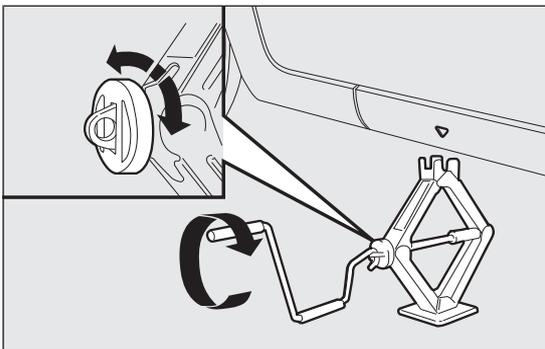
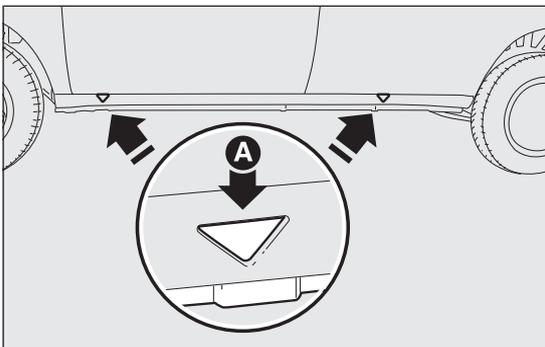

fig. 120
fig. 121
- turn the jack to open it partially fig. 120 and then position it under the vehicle at the references A fig. 121 near the wheel to be replaced;